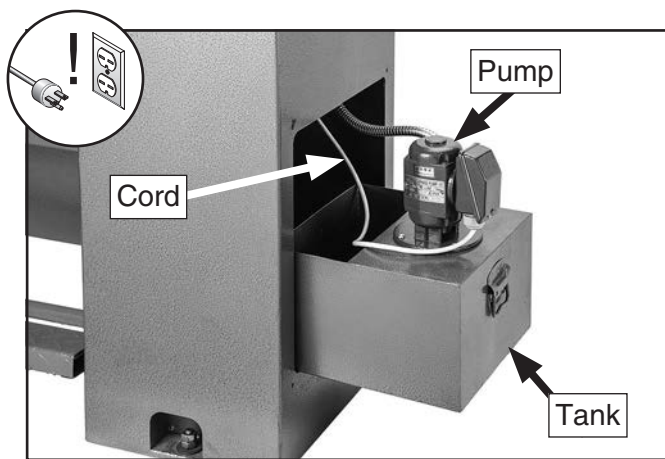

Figure 120. Location of coolant tank and pump.
2. Remove access cover from side of right stand, then lift tank out, as shown in **Figure 120**.
Note: The fluid hose and pump cord (see **Figure 120**) were purposely left long, so the tank can be removed and dumped out without disconnecting them from the tank.